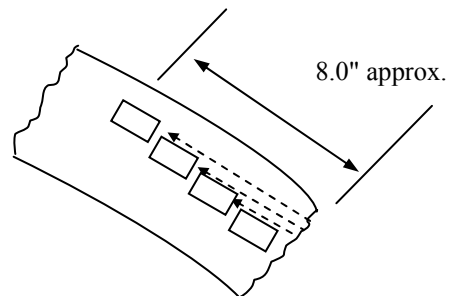

Figure 4. Overlap Scan Passes 50 %.
- b. Transducer scan paths SHALL overlap by **50%** to provide 100% inspection coverage. Reference Figure 4.